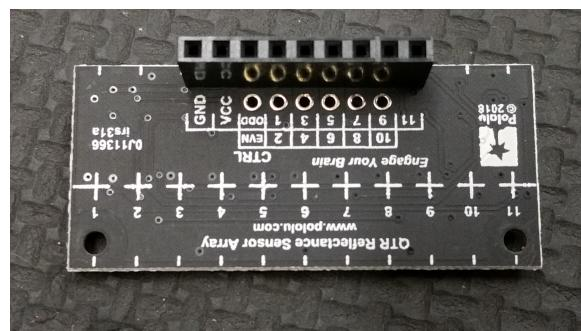

Figure 4: Line sensor array with sockets installed. **The sockets go on the opposite side from the sensors!**
3. Solder a 1x9 socket to the line sensor array, as shown in Figure 4. Make sure that the sockets are on the **opposite** side from the sensors (otherwise, you won't be able to get your line sensors close to the line).